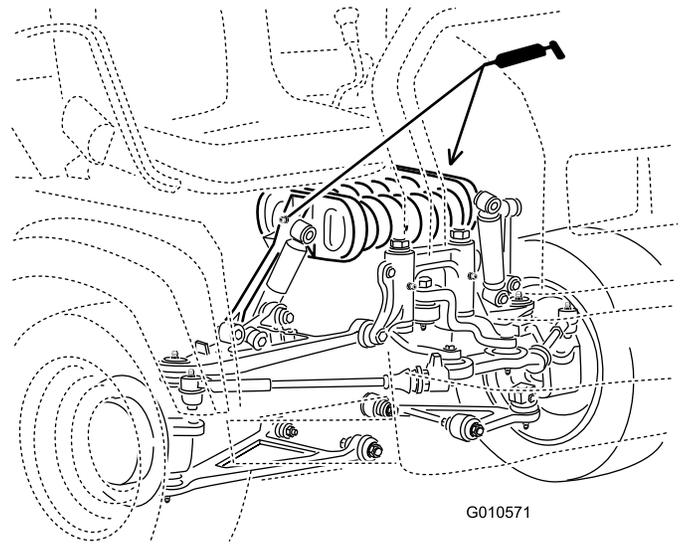

Figure 32
- Spring tower (2) (Figure 32)